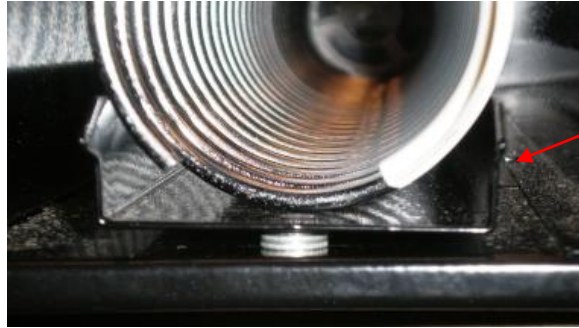

Figure 20B
- a. If the rails interfere with the lip of the vend bucket, **ADD** washers under the rail by placing them on the pin. Add washers until the gap between the bucket and the rail clear the lip of the vend bucket (Figure 20B).